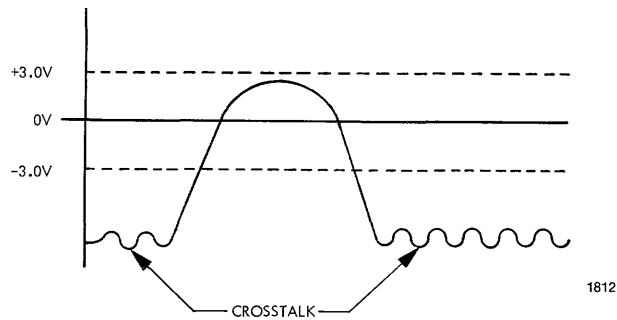

Figure 6-15. Index Signal, TP27, Repetitive Restore Mode
- (1) Select Channel 1.
- (2) Observe that the Index signal at TP27 makes a transition from a point more negative than  $-3\text{v}$  to a value greater than  $0\text{v}$  as shown in Figure 6-15.
- (3) If the waveform observed at TP27 is within limits, perform the Overshoot and Settling Response procedure detailed in Paragraph 6.9.9. If the observed waveform does not fall within the specified limits, perform the adjustments in Paragraph 6.9.8.6.
- (1) Adjust the Index Balance potentiometer R75 to obtain a minimum of  $-3\text{v}$  transition of the index waveform from ground as shown in Figure 6-15.
- (2) Ensure that the relationship between SPQCG and SPTIG established in Paragraph 6.9.8.3, Step (3), is maintained.
- (3) Repeat the SPOCG and SPRCG Test Procedures, Paragraph 6.9.8.2
- (4) Repeat the Analog Index Balance Test Procedure, Paragraph 6.9.8.5.
- (5) If the waveform at TP27 still does not fall within the specified limits, replacement of the transducer assembly may be required.
*If crosstalk is observed, it must not appear within the  $+3\text{v}$ ,  $-3\text{v}$  area shown in Figure 6-15. If the limits of Step (6) are exceeded and crosstalk appears in this area, repeat the adjustment procedure in Paragraph 6.9.8.6.*